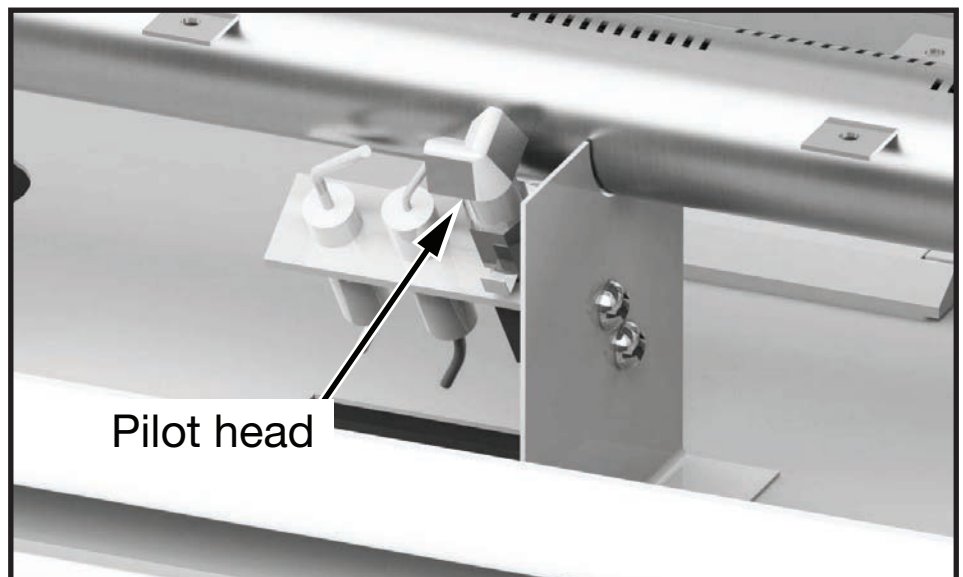

Figure 24: Pilot head.
6. With a 7/16" wrench loosen the pilot head on the pilot assembly (Figure 24).